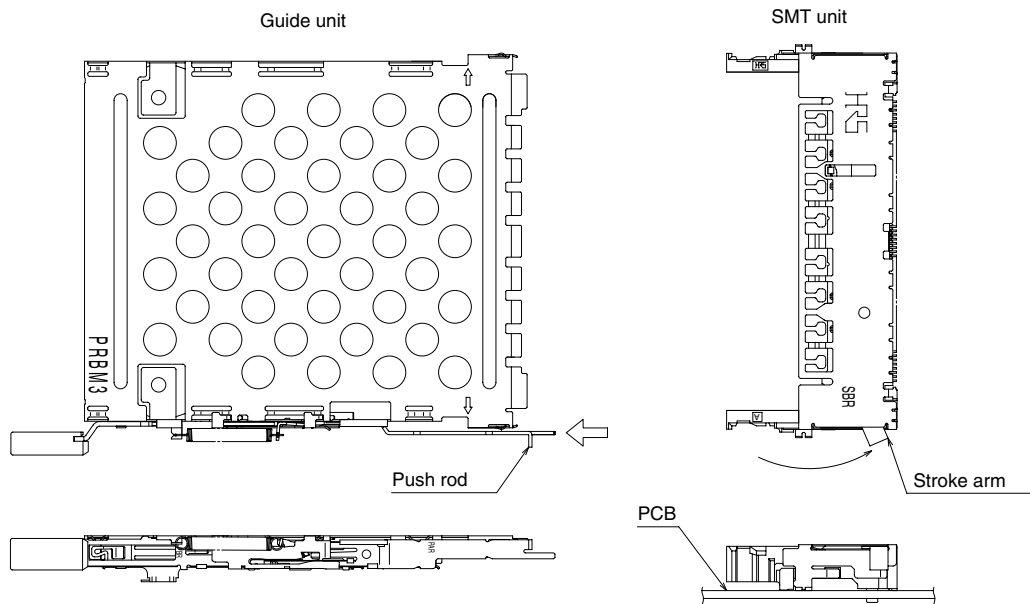

Fig. 1
Note 1: Verify and make sure that the position of the stroke arm of the SMT unit and the push rod of the Guide unit are at the positions indicated in Fig. 1. (as delivered).
- (1) Remove the 2 screws attaching the Guide unit to the PCB.
- (2) Make sure that the stroke arm of the SMT unit and the pushrod of the Guide unit are at the positions indicated in Fig. 1.